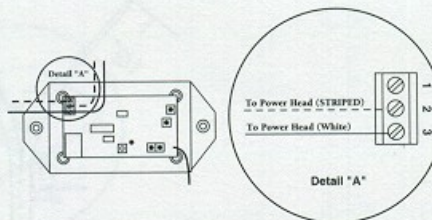

Figure 3-3
- CONNECT the STRIPED Wire to terminal 2 on the Receiver. (Figure 3-3)
- CONNECT the WHITE Wire to terminal 3 on the Receiver. (Do not tighten screw yet. Another wire will be added later.) (Figure 3-3)